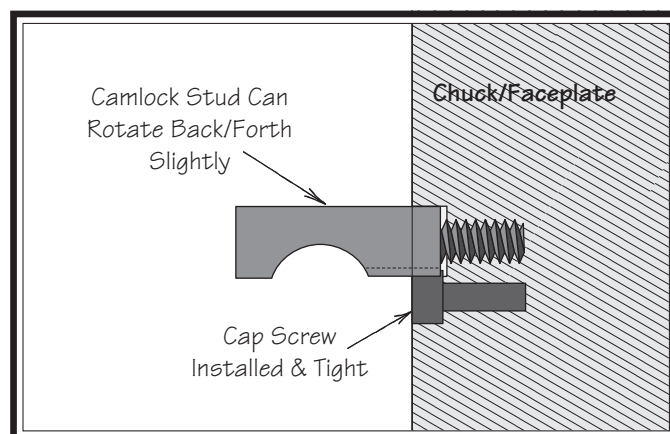

Figure 47. Camlock stud and cap screw correctly installed.
5. Make sure that the cam-lock studs can rotate back and forth against the head of the locking cap screw (see **Figure 47**).